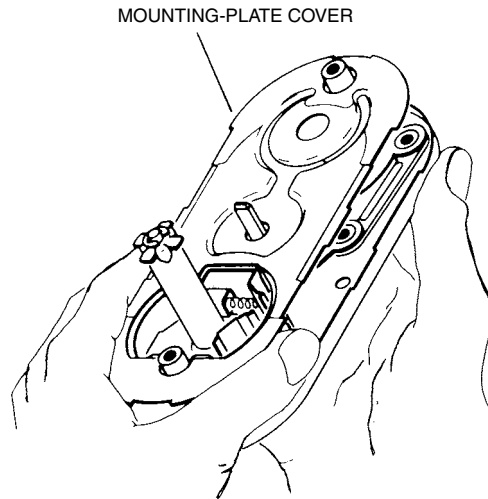

Figure 13.94 Right-hand conversion, Step 2.
2. Lift off the mounting-plate cover (Fig. 13.94).